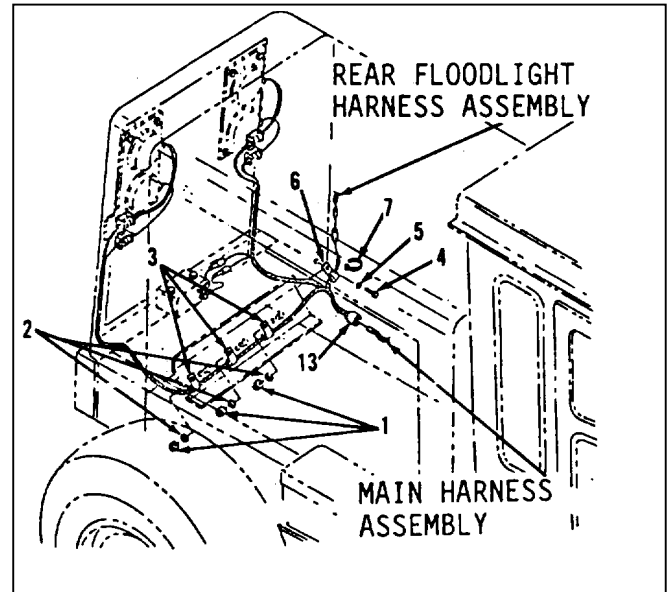

Figure 4-85.
11. Connect rear signal light and back-up alarm harness assembly (13) to rear floodlight harness assembly (Figure 4-85).
12. Install new cable strap (7).
13. Install clip (6), washer (5) and bolt (4).
14. Connect rear signal light and back-up alarm harness assembly (13) to main harness assembly.
15. Install three clips (3), washers (2) and nuts (1).